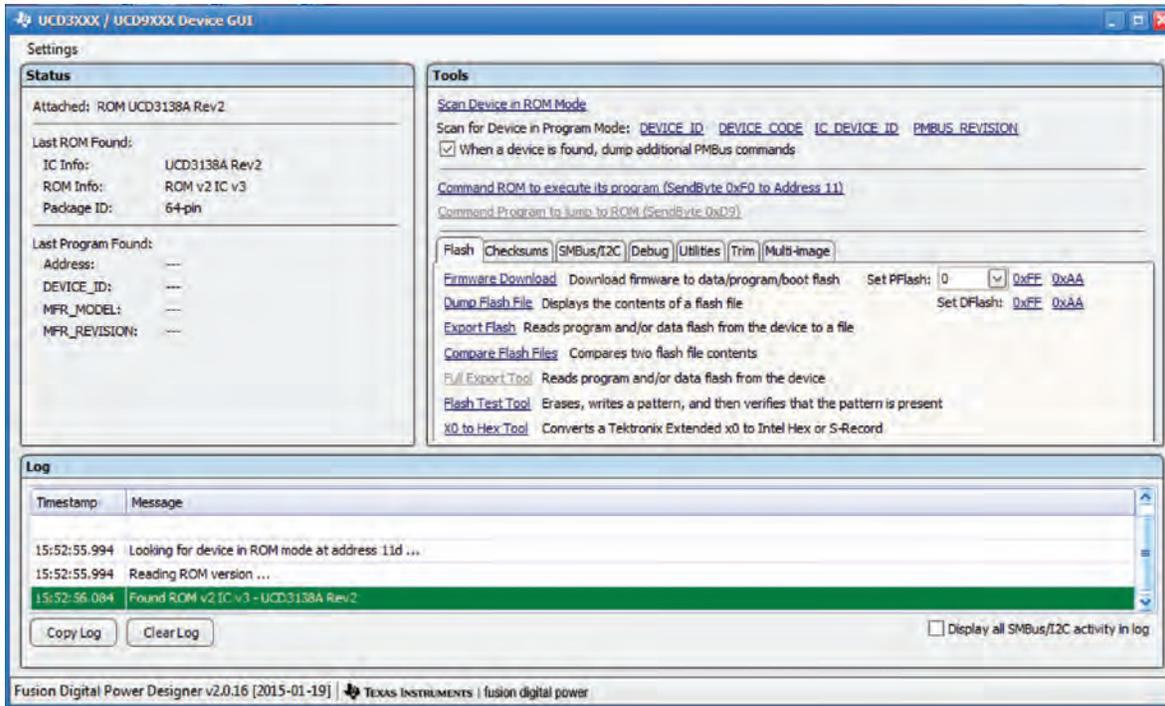

Figure 6. UCD3XXX / UCD9XXX Device GUI
3. Launch the UCD3XXX / UCD9XXX Device GUI following the steps described in section 6.1.3. A window shown in Figure 6 appears.
Erasing the downloaded firmware from the UCD3138A flash memory can be done by following the steps below and referencing Figure 6: